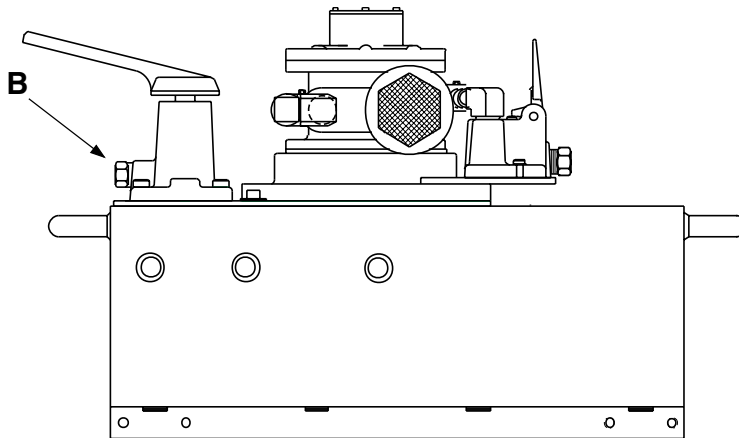
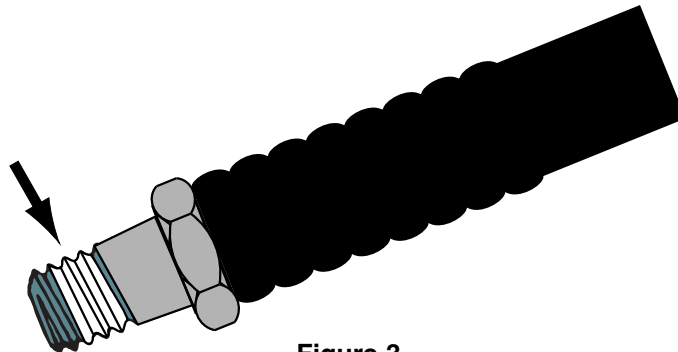

Figure 2
Figure 3
Thread hose(s) into the outlet port(s) of the valve. See Figure 2 for valve outlet port (B) location. Use 1 1/2 wraps of Teflon tape on the hose fitting, leaving the first complete thread free of tape. See Figure 3 for correct teflon tape application. Pumps with 3-way valves have one outlet port, and pumps with 4-way valves have 2 outlet ports. All hoses and components used with this pump must have a working pressure rating higher than or equal to the maximum pressure rating of the pump.